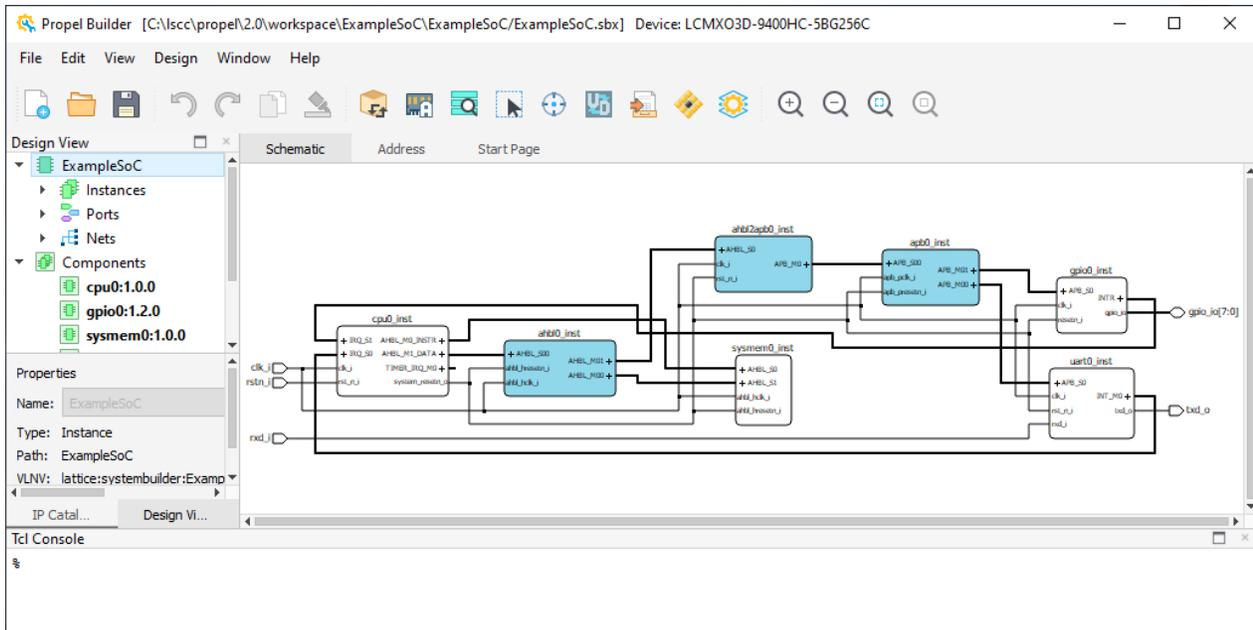

Figure 4.4. Propel Builder Window
4. The created SoC project can be found in the workbench. Its design is opened and displayed in Propel Builder for review (Figure 4.4).